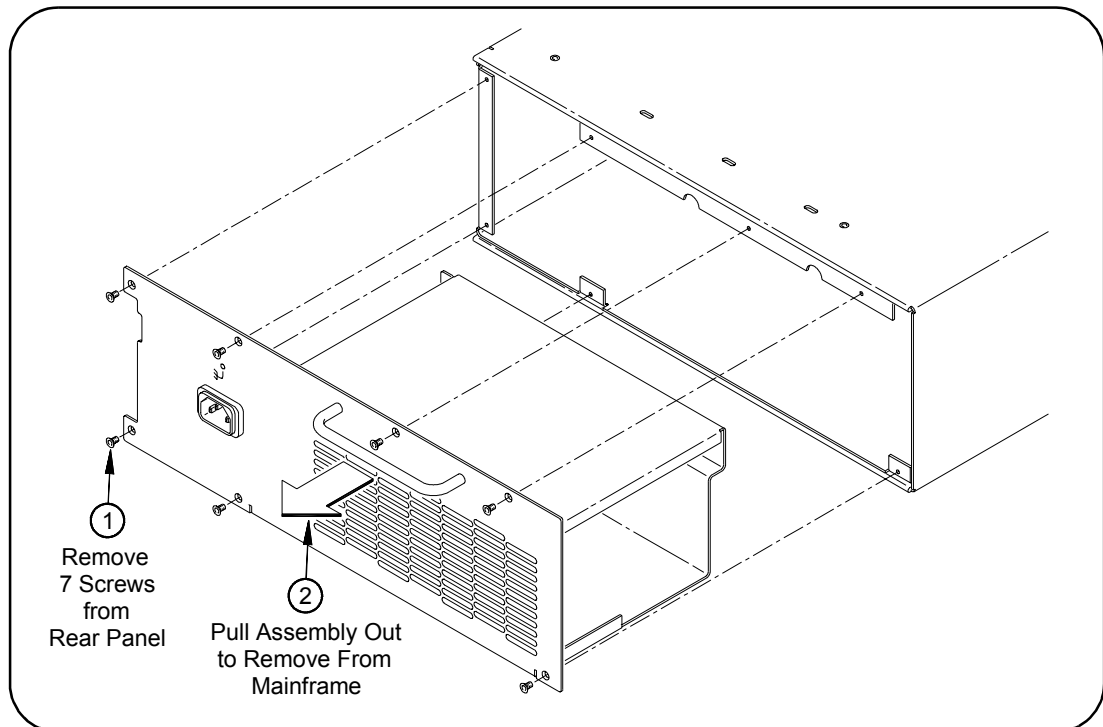

Figure 3-3. Removing the Power Supply Assembly
This section gives guidelines to replace the Power Supply Assembly (P/N 407870-010) in the 1266 mainframe (see Figure 3-3).
- 2 Follow the steps in Figure 3-3 to remove the Power Supply Assembly.
- 3 Reverse the steps in Figure 3-3 to replace the Power Supply Assembly and to restore the mainframe to its original configuration.